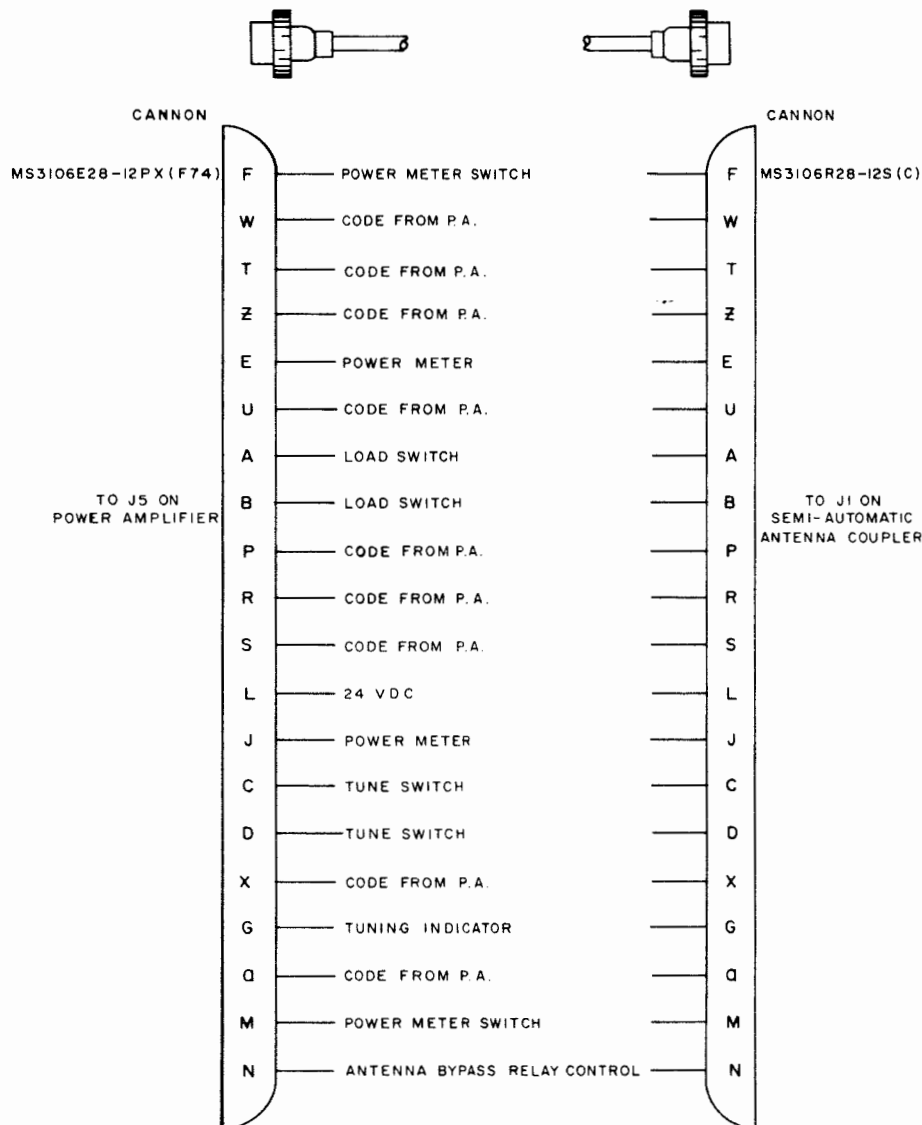

Figure 1-2. Semi-Automatic Antenna Coupler SC-905C, Power and Control Cable Fabrication, Wiring Diagram
3. Following wiring diagram (figure 1-2), connect wires to one of the connectors (note color codes).